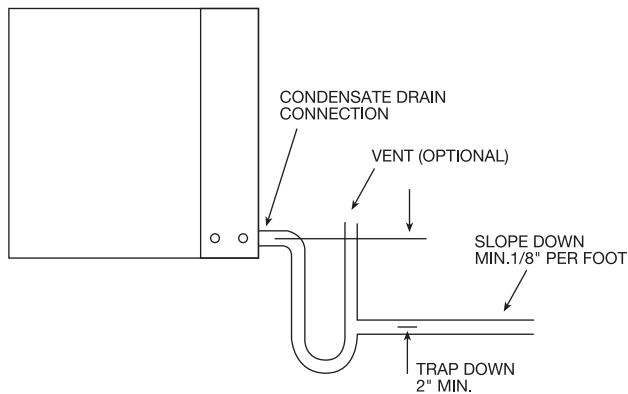

Fig. 6 — Condensate Trapping
Step 6 — Install Condensate Drain — A drain line must be connected to the heat pump and pitched away from the unit a minimum of $\frac{1}{8}$ -in. per foot to allow the condensate to flow away from the unit. (See Fig. 6.)